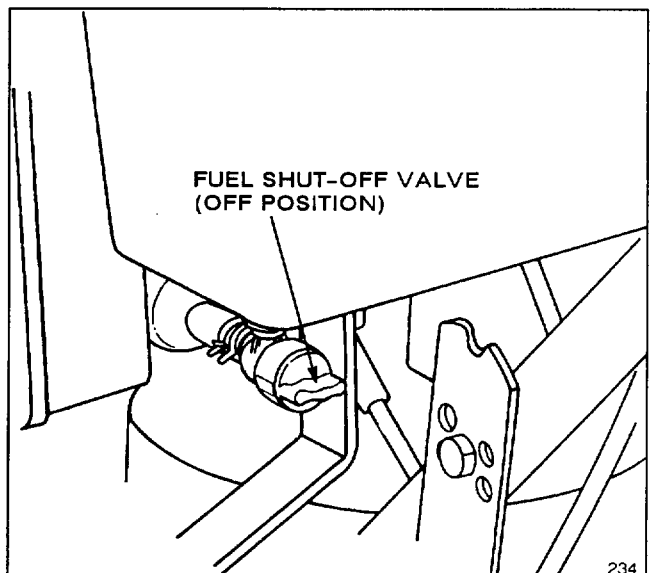

Figure 12
2. Turn fuel shut-off valve to OFF position (Fig. 12).